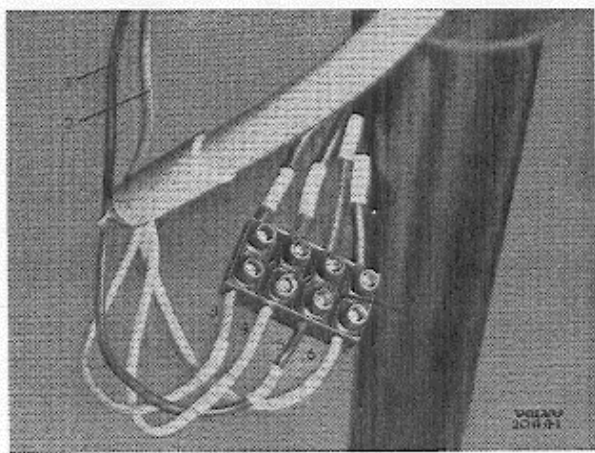

Fig. 29.
4. Disconnect the cables (1 and 2, fig. 29) from the blinkers and the cables (3—6) at the